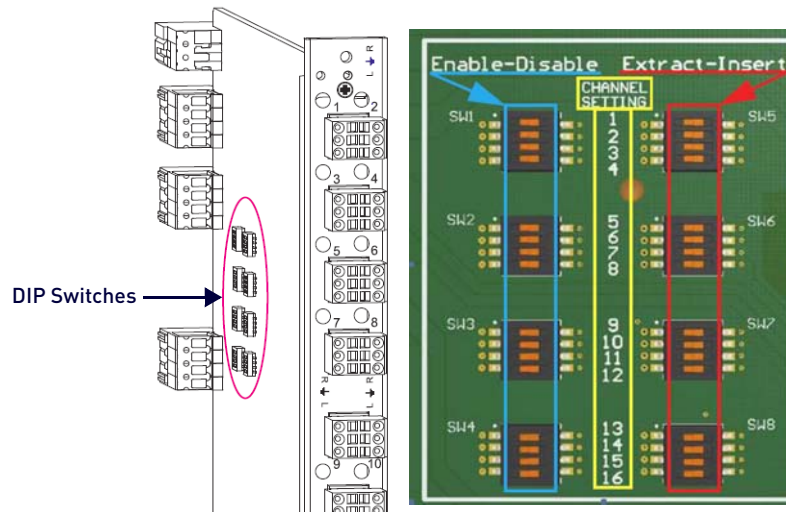

FIG. 91 Flip DIP switches to change settings
Each board has two DIP switches per AIE connector with the corresponding AIE connector number displayed vertically between the switches, labeled "Channel Setting" (FIG. 91):
- Located on the left (see blue rectangle in FIG. 91).
- Located on the right (see red rectangle in FIG. 91).